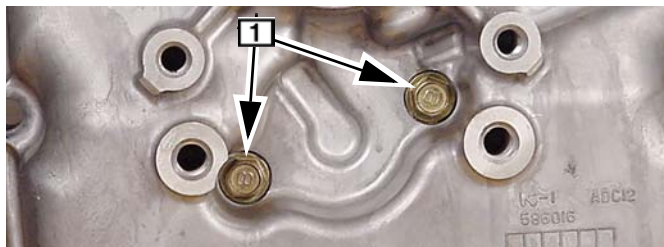

Fig. 59
4. Remove oil pump screws **1** and oil pump **2**, Fig. 59.